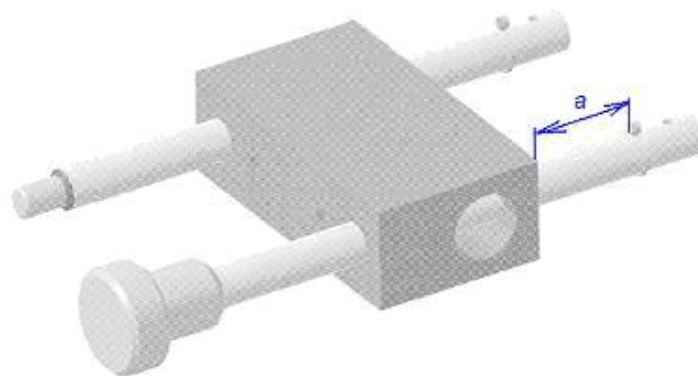

Fig. 5
- Mark length on the handle it can be pulled more (distance "a" from the bracket to the cotter-pin in the handle). Fig. 5.